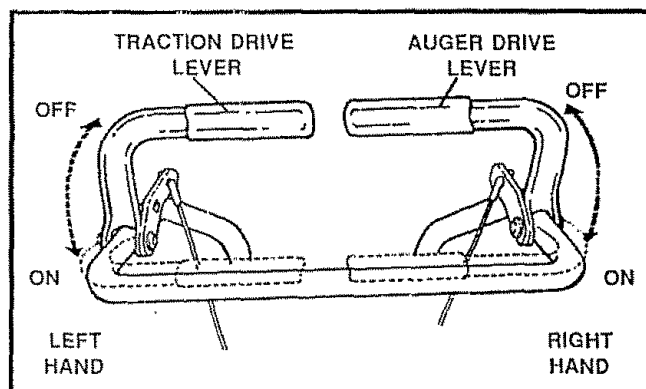

FIG. 11
- To stop throwing snow, release the auger drive lever (See Fig. 11).
- To stop the track, release the traction drive lever. (See Figure 11).
- Engage the traction drive lever (See Fig. 11, left hand). As the snow thrower starts to move, maintain a firm hold on the handles, and guide the snow thrower along the clearing path. Do not attempt to push the snow thrower.
- Push down the auger drive lever (See Fig. 11, right hand).